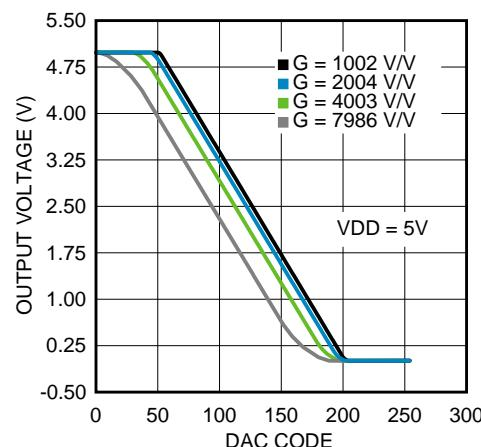

Figure 32. DAC DC Sweep With $V_{DD} = 5\text{ V}$
- Power supply bypassing as shown in figure 32 is recommended.